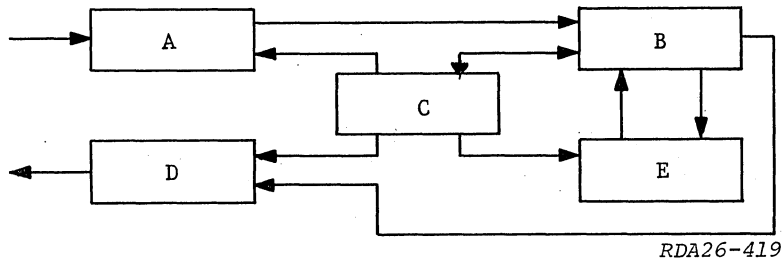

Figure 1-2
1. Analyze the basic computer block diagram (figure 1-2) and list the name of each unit to correspond with the label in the appropriate block.